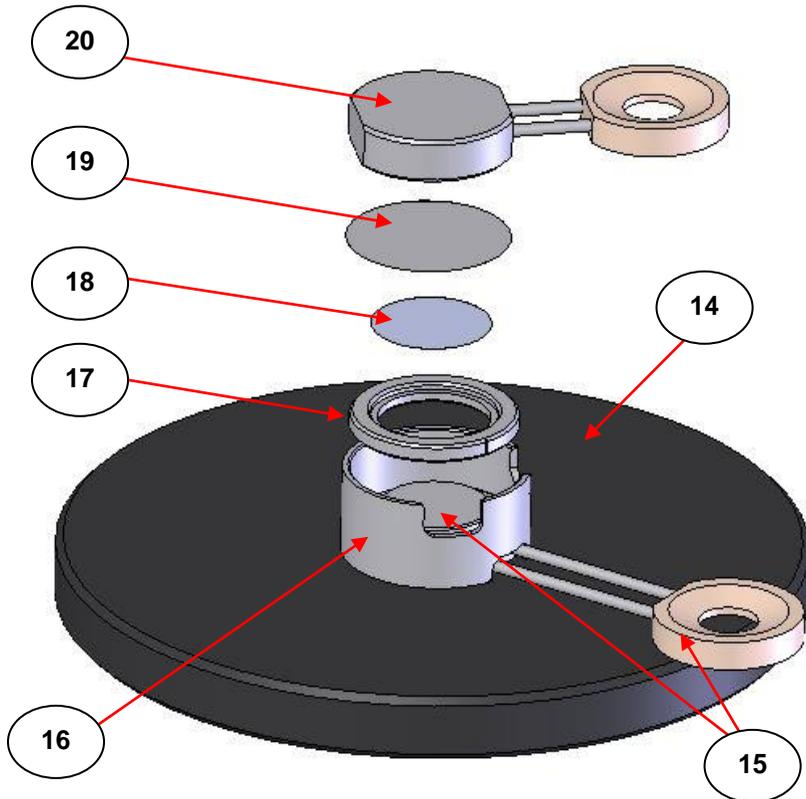

Fig 5. Mini-Film Maker Assembly
Prior to placing a polymer sample in the Mini-Film Maker press (1) set at a specific operating temperature to form a thin film, the polymer/plastic sample is prepared in the Film Maker Assembly (3). Fig 5. shows an exploded view of the Film Maker Assembly (3) parts for the sequence of their construction.
A cooling plate (14) is provided to place a **hot** Mini-Film Maker Assembly (3) when it is taken out of the press (1) after pressing. In Fig 5. the lower film platen assembly (15) is seen resting on the cooling plate (14). The film maker shield (16) has been placed the correct way up over the lower film platen assembly (15).
Although not shown in Fig 5., the next stage for construction is introduction of a polymer/plastic sample. (The amount of sample to use will vary dependent upon the thickness of film to produce and the sample type itself.) Carefully place the polymer/plastic sample to be pressed centrally over the smaller diameter foil (18) surface. Now, take the larger diameter aluminium foil (19) and carefully place it over the sample ensuring that the shiny side of the foil is downwards such that it will be in contact with the sample whilst pressing.